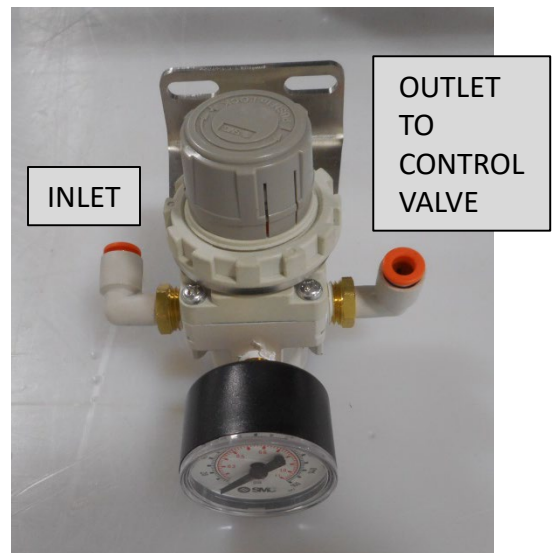

Fig. 2
2. Begin set up with attachment of hoses as shown in Figure 2. Attach inlet air supply to inlet side of the pressure regulator. This item is user supplied and can be set up as required. Apply air pressure at this time and adjust regulator to required output. **Disconnect air supply after setting pressure to avoid any sudden movements of equipment while continuing set up.** Attach the outlet side of the regulator to the inlet of the control valve using the supplied plastic tubing. (Fig 2)